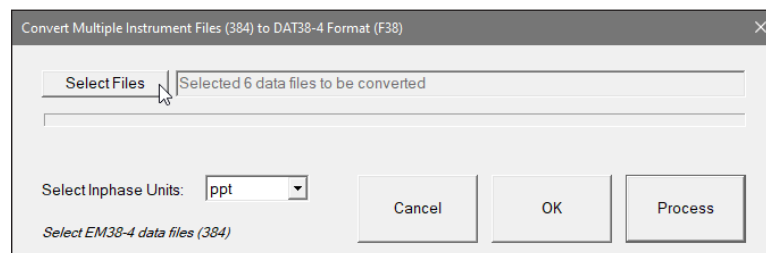
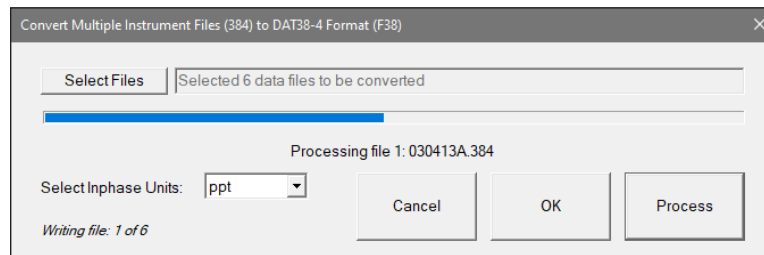

Figure 2.2 Convert Multiple EM38-4 Files to F38 Format dialog (selected Inphase units in ppt)
Figure 2.3 Convert Multiple EM38-4 Files to F38 Format dialog during conversion procedure
2. **Convert Multiple EM38-4 Files (.384) to DAT38-4 (.F38) Format** – This option simultaneously enables batch conversion of up to 50 files. After clicking the **Process** button, all selected files will be converted to the F38 format (Figure 2.2). The converted file names are not specified in the dialog; however, each file name is displayed during processing (Figure 2.3).